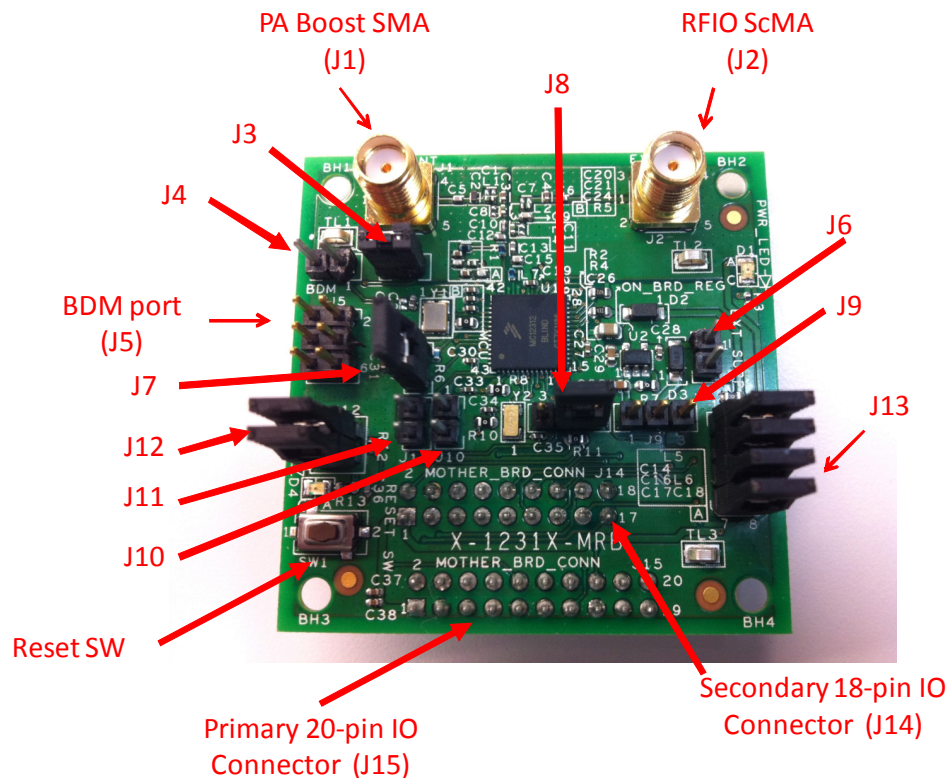
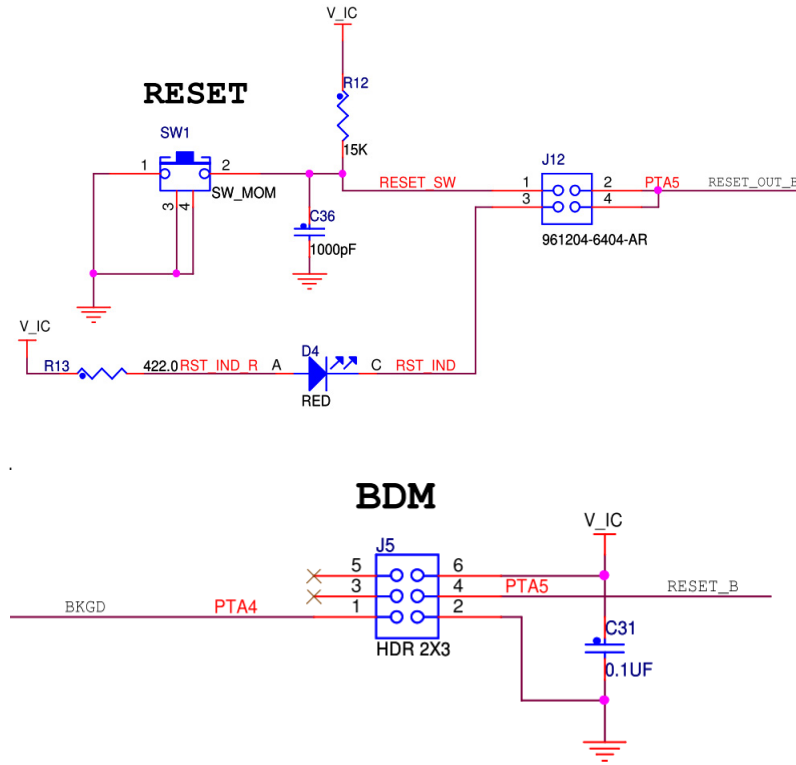

Figure 3-1. 12311-MRB
Figure 3-7. 12311-MRB Reset Switch and BDM Port
Figure 3-1 shows the 12311-MRB connector and header locations.
- Figure 3-1 for location of connectors and features
The reset circuit and BDM port connector are shown in Figure 3-7. See Figure 3-1 for switch and header locations.